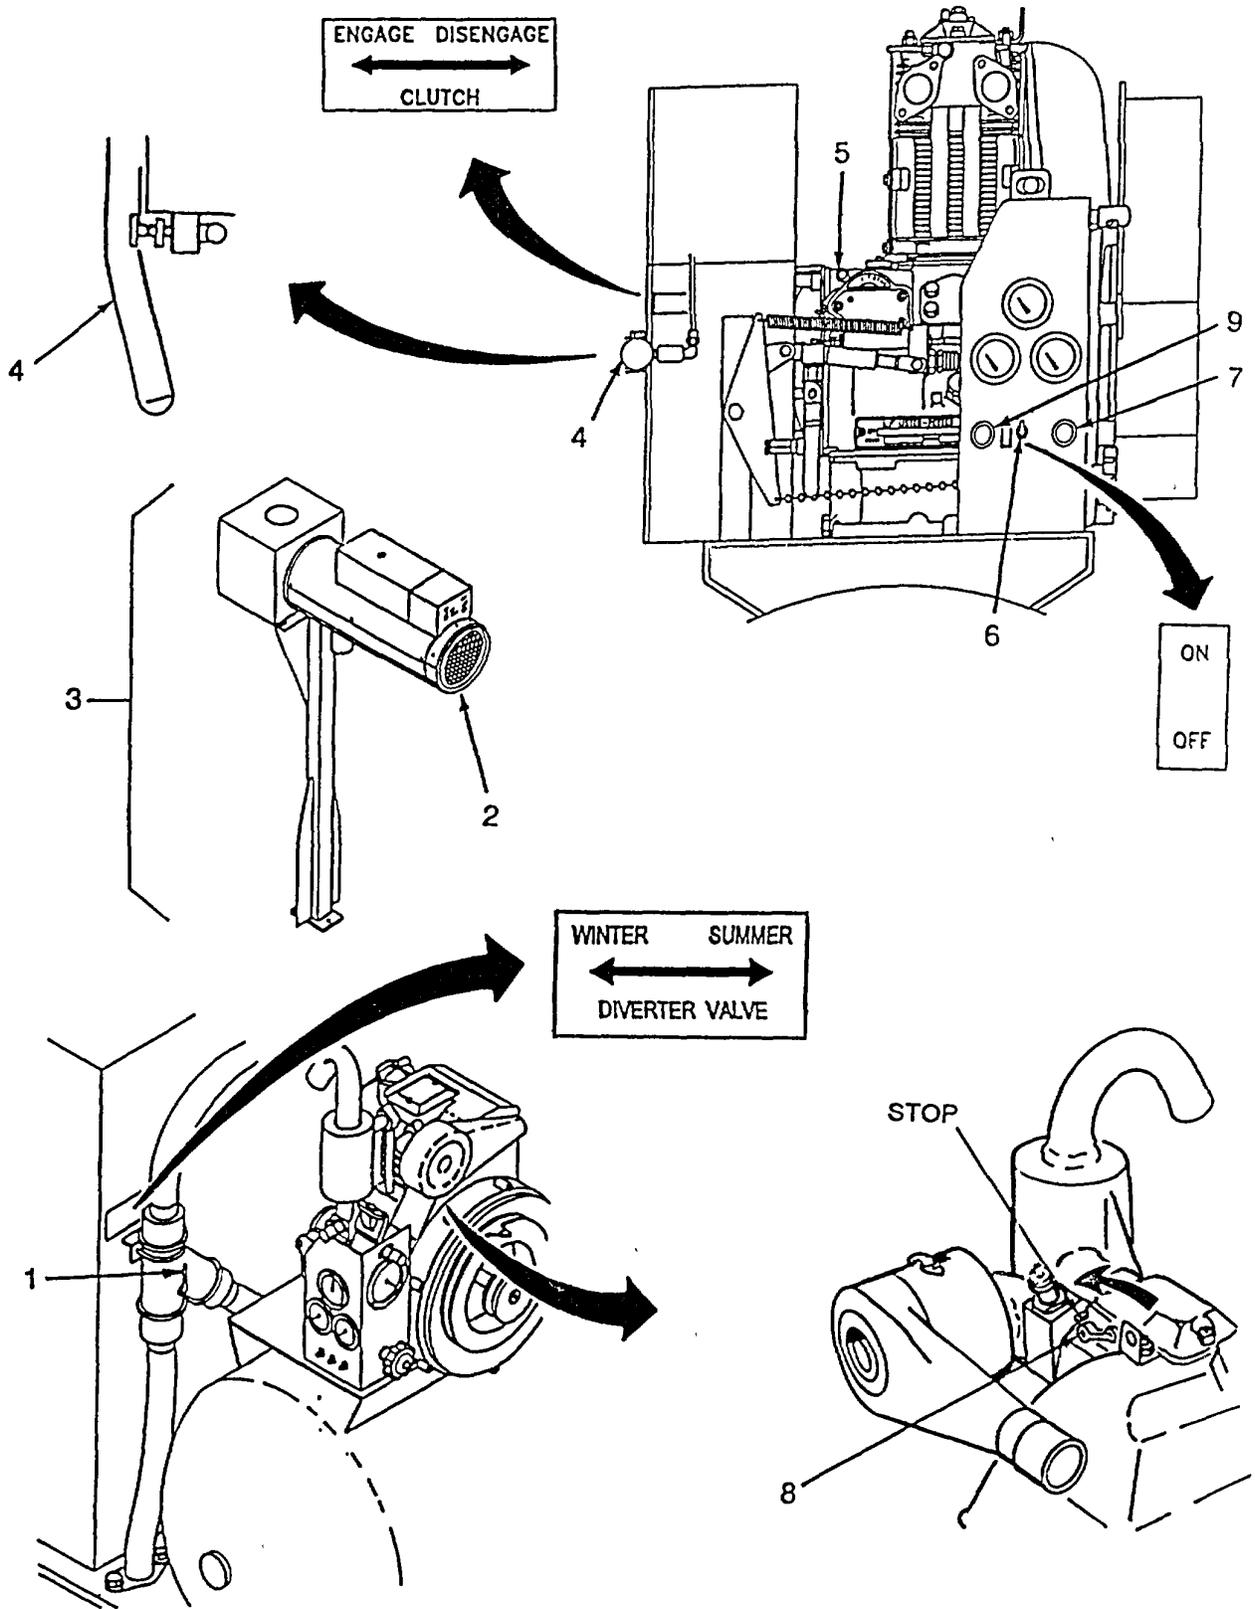

Figure 2-34. Unusual Environment/Weather
### 2-12. OPERATION IN UNUSUAL ENVIRONMENT/WEATHER. (See Figure 2-34.)
- (11) Make sure that the batteries are in new or almost new condition. It would even be a good idea to take two spare batteries along on the mission as well as a battery charger.
e. STARTING THE ENGINE (Refer to Figure 2-34.)
- (1) Switch exhaust diverter valve (1) to the left "winter" position.
- (2) Start heater (2) on winterization assembly (3). (See para. 2-12.1.f. Winterization assembly and heater). Allow unit to warm to at least 200F.
- (3) To decrease starting load, start engine with clutch (4) disengaged.
- (4) Move the engine run/stop lever (5) on engine to "run".
- (5) Move the on/off toggle switch (6) on control panel to "on".
- (6) Depress glow plug button (7) on control panel for one minute - It warms the engine chamber air for easier combustion of diesel fuel.
- (7) While continuing to hold glow plug button (7) move decompressor lever (8) on top of engine towards its stop and hold.
- (8) While holding glow plug button (7) and decompressor lever (8), push engine start button (9) When engine cranks at a sufficient speed, release the decompressor lever (8).